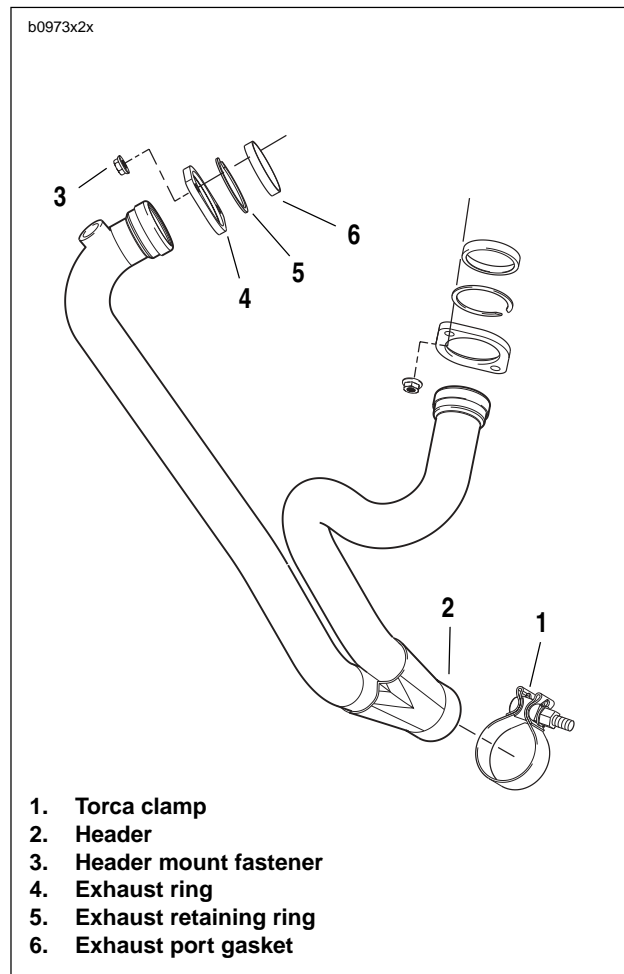

Figure 2-100. Exhaust Header
6. See Figure 2-100. Loosen Torca clamp (1) and remove muffler.
3. See Figure 2-100. Remove exhaust header (2) by removing mounting fasteners (3).
4. Remove exhaust ring (4), retaining ring (5) and port gasket (6).
1. See Figure 2-100. Install exhaust ring (4), retaining ring (5) and **new** port gasket (6).
2. Install exhaust header (2). Tighten mounting fasteners (3) to 72-96 in-lbs (8-11 Nm).
5. See Figure 2-100. Tighten the Torca clamp (1) to 40-45 ft-lbs (54-61 Nm).